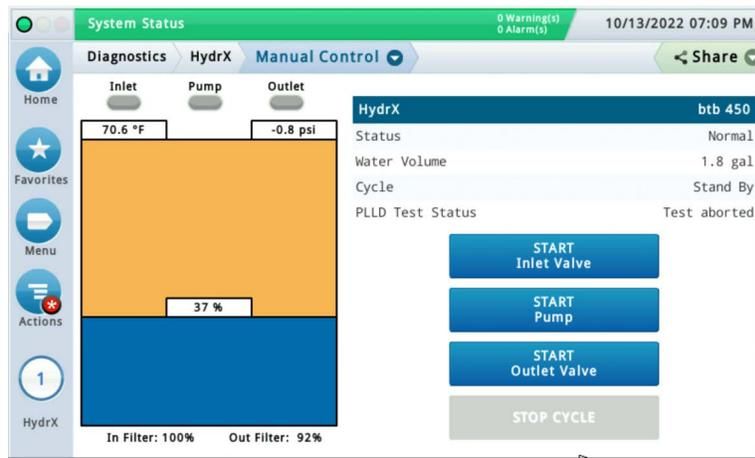

Figure 31. Example HydrX Diagnostics Manual Control Screen
1. Touch **Menu>Diagnostics>HydrX** to open the HydrX Diagnostic Screen, then touch **Manual Control** (Item 2, Figure 18) to open the HydrX Diagnostics Manual Control screen (Figure 31).